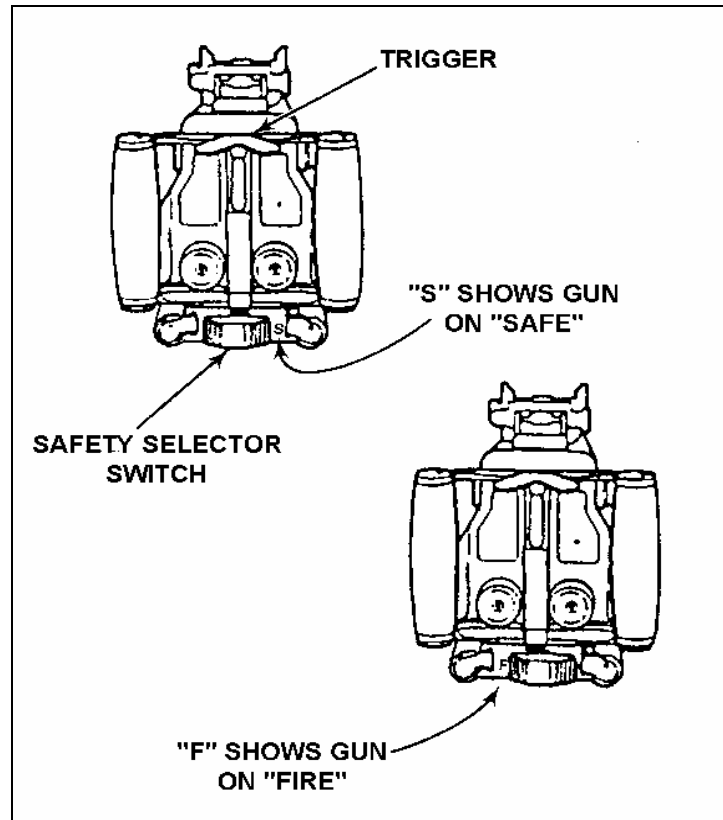

Figure 2-6. S (SAFE) position.
- (1) Move the safety switch to S (SAFE) (Figure 2-6).
(6) Inspect the chamber and bolt face to ensure that no live rounds are in the weapon.
(7) Place the safety switch on F (FIRE) (Figure 2-6).
(8) Maintain rearward pressure on the charging handle, press the trigger and ease the bolt forward.
(9) Place the safety switch on S (SAFE).
(1) Place the safety switch on S (SAFE) (Figure 2-6).
(2) Open the top cover assembly.
(3) Lower one or both charger handles.
(4) Pull the charger handle slightly to the rear.
(5) Allow sufficient space between the face of the bolt and the chamber to see both.
(6) Check for live ammunition.
- (7) Ride the bolt forward.
- (8) Return the charger handle to its original upright position.